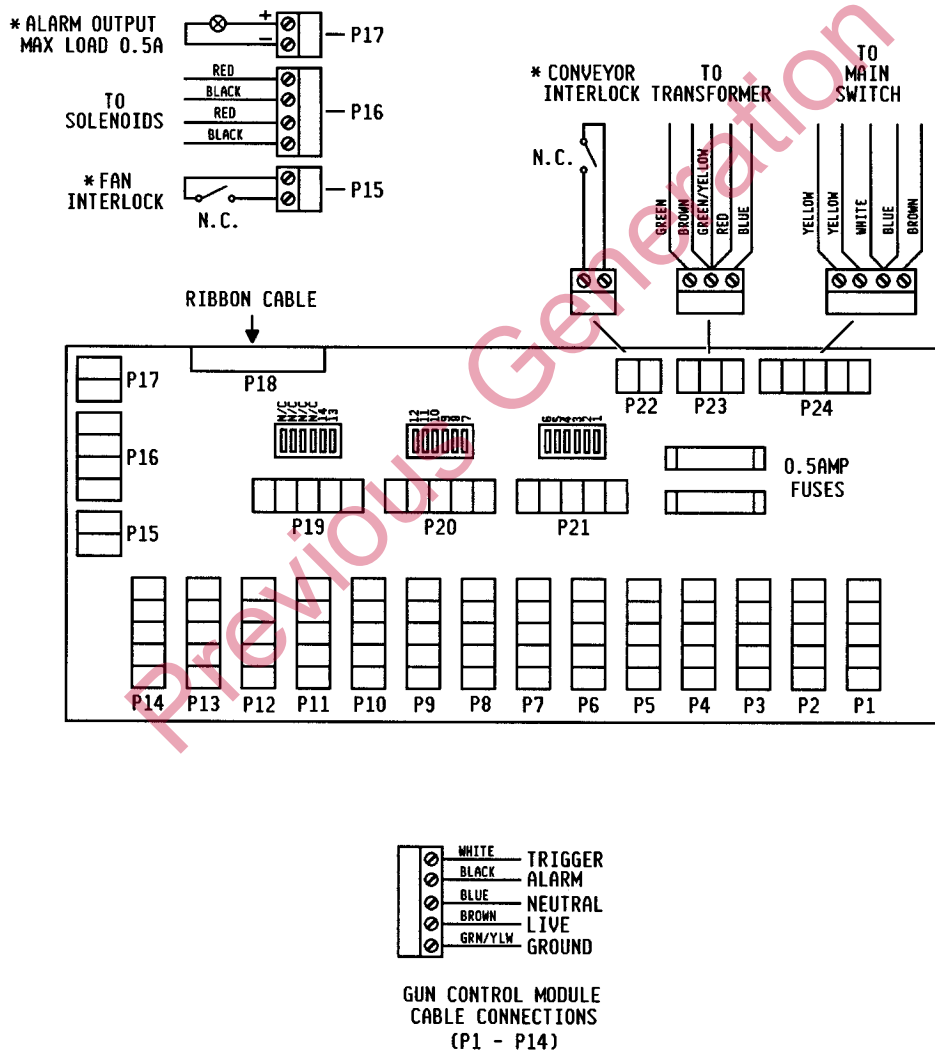

Figure 3-1 — Main Circuit Board Electrical Connections
3. Lead cables from gun control modules through strain relief connectors and wire to the corresponding plug-in terminals (P1 - P14) on the main circuit board, as shown in Figure 3-1. Tighten strain relief connectors to capture the cables and seal the cabinet.
2. Route cables from normally closed switches (customer supplied) through strain relief connectors and wire to plug-in terminals on main circuit board (P15 - fan, P22 - conveyor) as shown in Figure 3-1.
2. Route cable to plug-in terminal P17 and connect leads as shown in Figure 3-1. Tighten strain relief connector until cable is fully captured.
3. Remove plastic cap from unused knockout and install a 15 millimeter strain relief connector (P/N 630 915) in hole. Pull power/trigger cable furnished with gun control module through strain relief connector and connect to open connector on main circuit board (P1 through P14) as shown in Figure 3-1 . Plug connector back into main circuit board. Tighten strain relief connector until cable is fully captured.